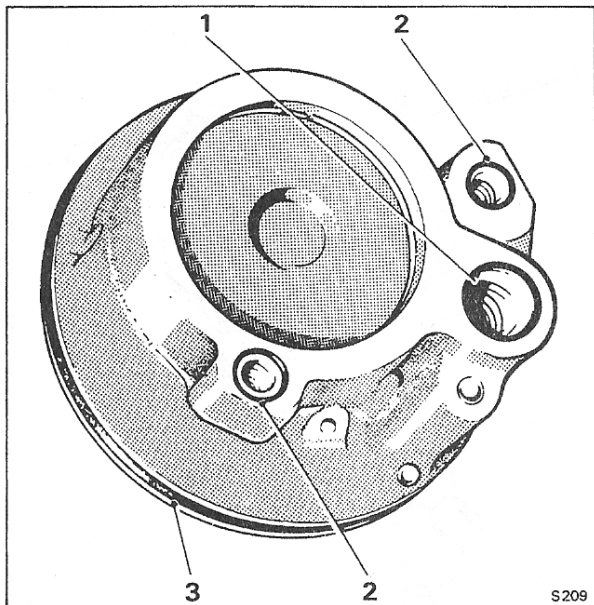
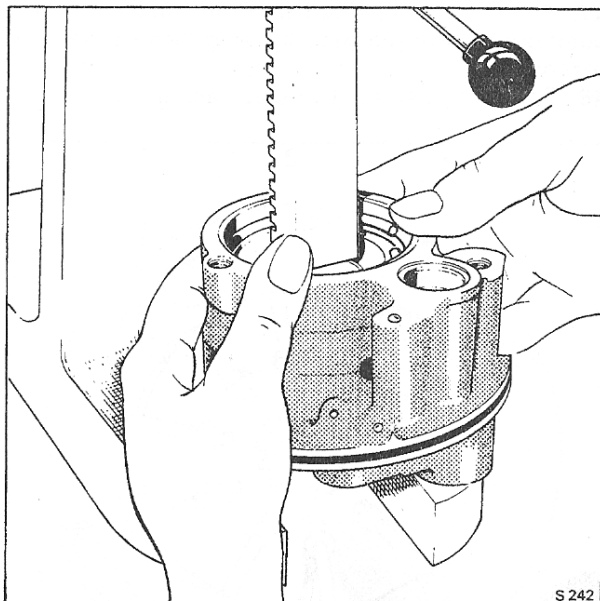

Fig. N19 Position of external sealing rings
Fig. N24 Method of replacing end cap
13. Lubricate the outer diameter of the end plate to prevent damage to the fitted 'O' ring. Position the pump under a suitable arbor press (see Fig. N24). and press the end plate into the housing sufficiently to allow the retaining ring to be fitted (see Fig. N19).